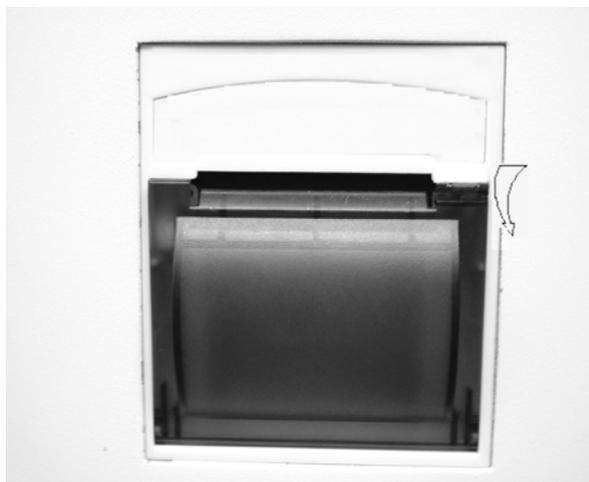

Figure 4-11
1. Locate the projecting part in the upper right corner of the recorder and press it in the direction shown in Figure 4-11 to open it;